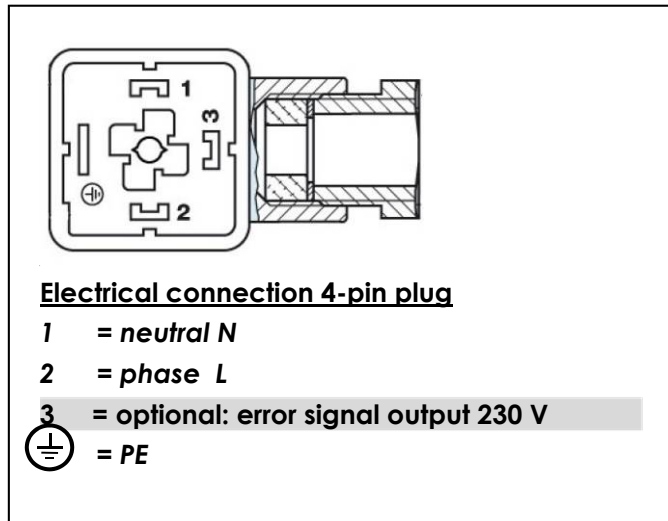

Fig 33: Electrical connection 4-pin plug
- ⇒ Route a flexible 3-wire electrical connection cable [max. 3 x 1.5 mm²] for power supply burner kit to the four-pin plug and connect the cable according to connecting scheme [Fig 33].